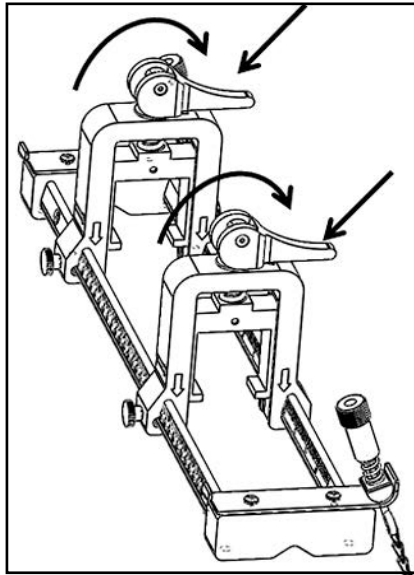

Figure 19: Loaded Cams
4. Move both cams to the loaded position, so that the clamp holders rest in their furthest radial position from the pipe (see *Figure 19* below).